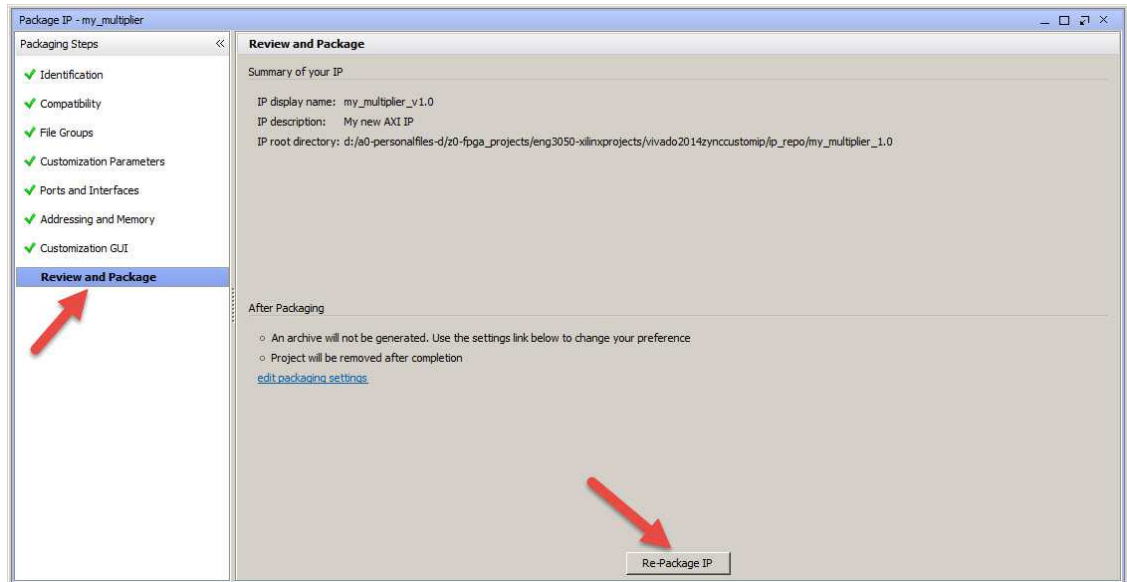

Figure 27: Review and Package IP
12. Now **Click** “Review and Package IP” as seen in **Figure 27** and then **click** RePackage IP.